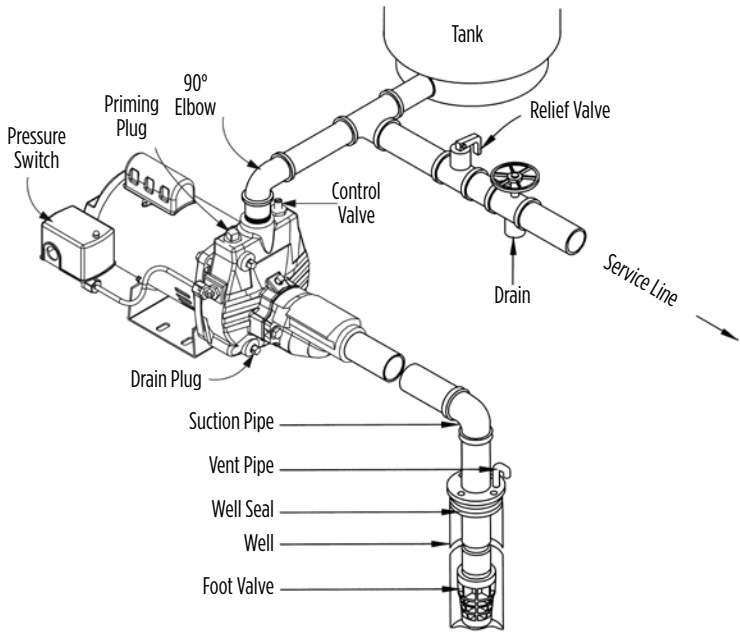
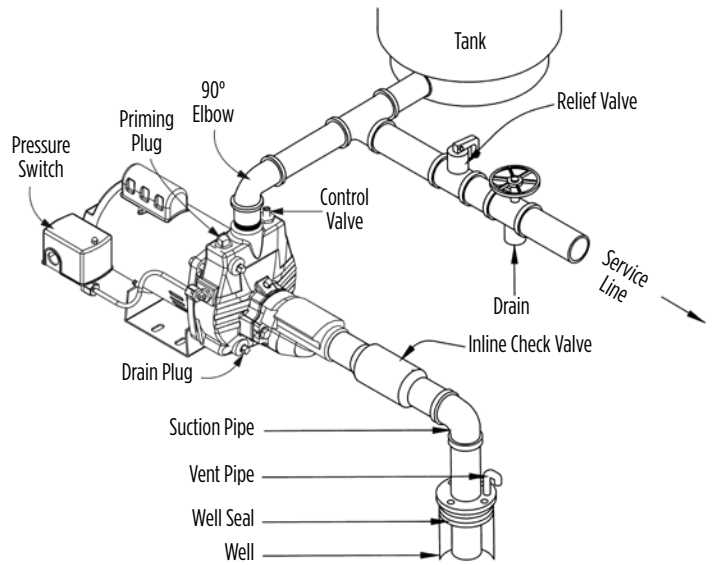

Fig. 9a - SHALLOW WELL
Fig. 9b - SHALLOW WELL
13. If a pressure gauge is supplied with the pump or if you wish to install a pressure gauge, it should be installed into the 1/4" NPT hole on the front of the casing directly in front of the priming port. (See **Typical Installations** Fig. 9a, 9b, 9c or 9d.)
Shallow well installations use only a single pipe connecting the pump to the water supply. If your water table fluctuates and could reach pumping depths greater than 25 ft, follow the instructions for deep well applications. This pump can be used for drilled wells (see Fig. 9a) or driven wells (see Fig. 9b). Drilled wells are holes drilled into the ground by professional well drillers using a large rig. Driven wells use well points (also known as sand points), which is a long pointed tube with a screen that allows water to enter the pipe but keeps out sand and sediment. The injector assembly that comes with the pump is pre-assembled for use in wells down to 25 ft (7.6 m) and is installed **directly on the pump**.
3. There are two types of shallow well installations: drilled wells (see Fig. 9a) or driven wells (see Fig. 9b). Drilled wells are holes drilled into the ground by professional well drillers using a large rig. Driven wells use well points (also known as sand points), which is a long pointed tube with a screen that allows water to enter the pipe but keeps out sand and sediment. The water level in a driven well is fairly high or near ground level (maximum 30 ft [9.1 m]). Continue with the appropriate shallow well installation.
10. If a pressure gauge is supplied with the pump or if you wish to install a pressure gauge, it should be installed into the 1/4" NPT hole on the front of the casing directly in front of the priming port. (See **Typical Installations** Fig. 9a, 9b, 9c or 9d.)
11. If a pressure gauge is supplied with the pump or if you wish to install a pressure gauge, it should be installed into the 1/4" NPT hole on the front of the casing directly in front of the priming port. (See **Typical Installations** Fig. 9a, 9b, 9c or 89d.)